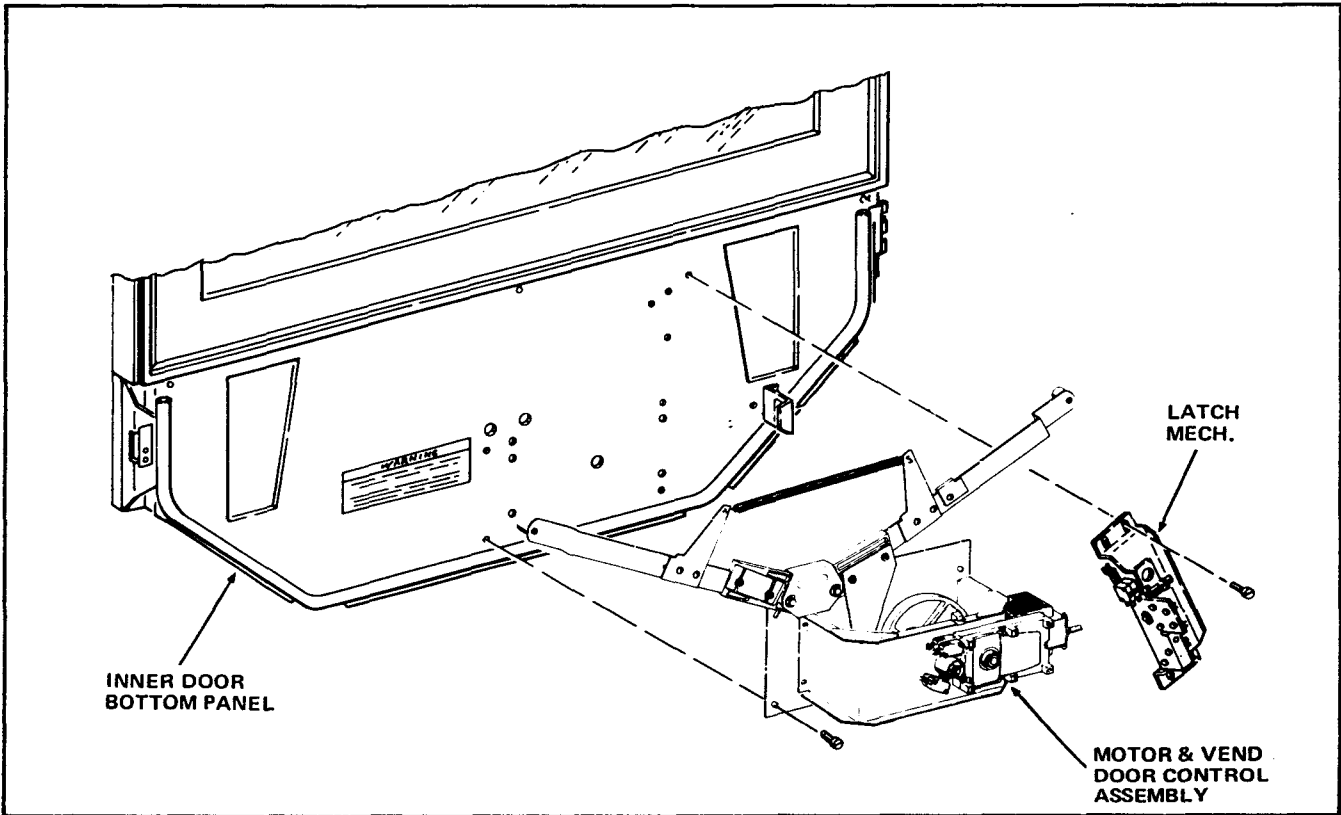

FIGURE 3
10. Remove four attaching Screws and the Latch Mechanism Assembly from the Inner Door Bottom Panel. See Figure 3.
11. Remove four attaching Screws, four Lockwashers and the Motor and Vend Door Control Assembly from the Inner Door Bottom Panel. See Figure 3.